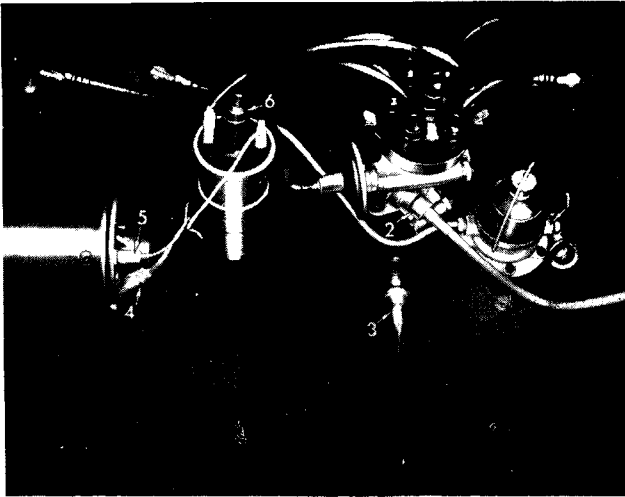

Fig. 80. Left hand view of engine
Referring to Fig. 80, remove the fuel inlet pipe from the fuel pump (1).